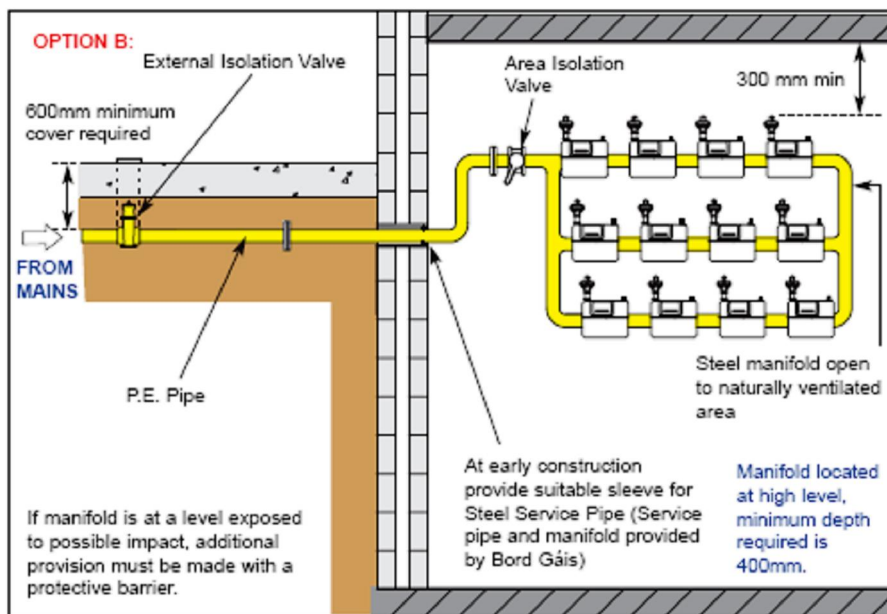

Fig 4 On-site fabricated gas manifold.
- The gas manifold (Example Fig 4 ) will be installed with an isolation valve provided for connection to each gas meter.